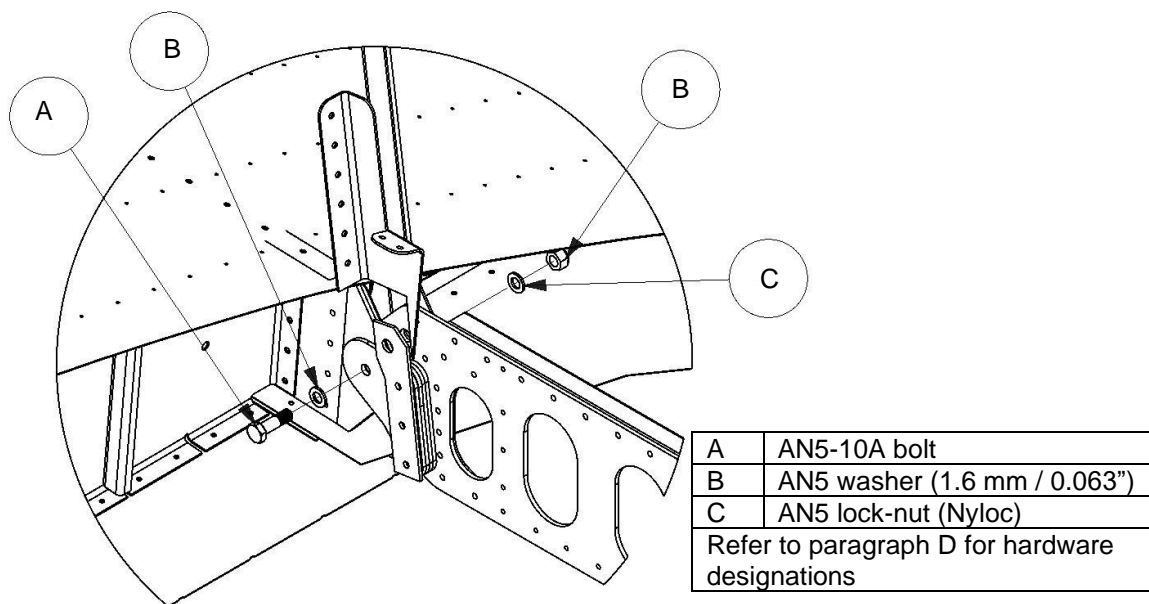

Figure 8: Rear wing spar to fuselage connection.
- Tighten the rear spar bolt to the recommended value (refer to paragraph 1.5.2). Observe the correct placement of washers (refer to Figure 8).